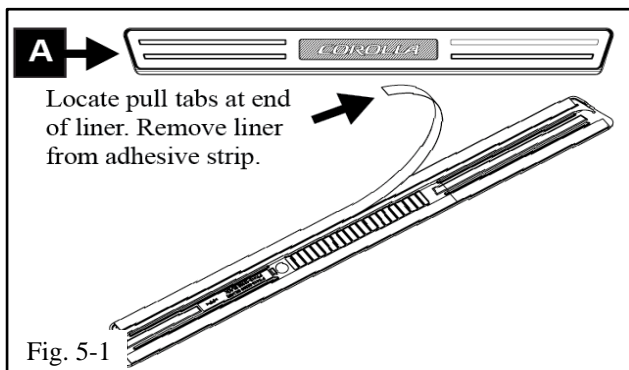

Fig. 5-1
- (b) Locate pull tabs at end of adhesive strip liner (Fig. 5-1).
- (1) Avoid finger contact with adhesive surface.
- (2) Carefully remove liner from adhesive strip (Fig. 5-1).